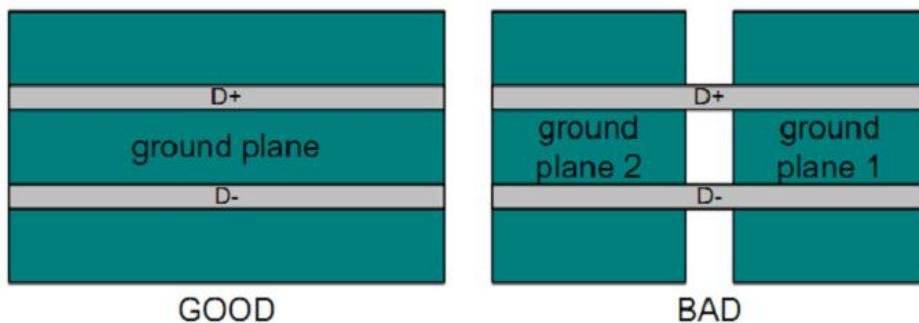

Figure 4-22 USB Signal Trace Reference Plane
- In order to suppress EMI, the USB signal traces is recommended to be placed inner layer and ensure the reference plane is continuous and complete, otherwise, it will cause discontinuities in the traces impedance and increase the external noise on them. shown as Figure 4-22.